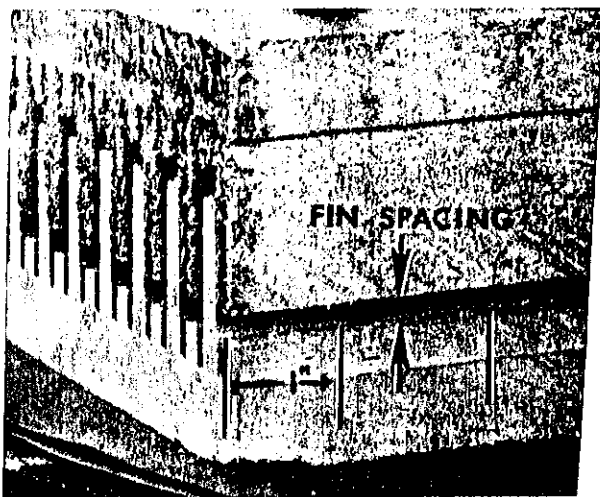

Figure 21 (8029373) Arc Chute Fin Spacing
2. The gap between the fins at the rear of the arc chute sides measured at least 1" in from the back end of the arc chute (See Figure 21) should be 1/16" maximum.